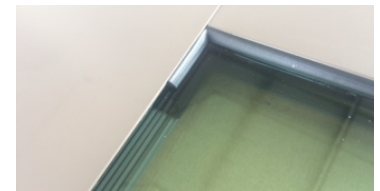

Figure C2:
3. Place the Stile onto the Glass and install the Assembly screws (Figure C2).